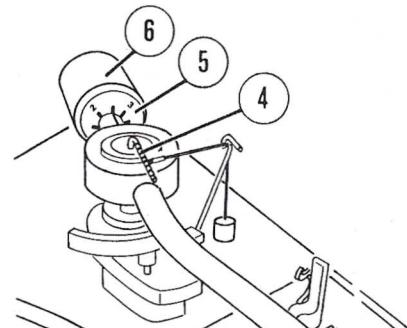

Fig.5. Justering av stifttrykk
1.5 Balansevekt (fig. 5)
1.5 Balance weight (fig. 5)
- Turn the turntable in the playing direction as the start/stop lever (13) is moved to START. The start phase will then begin and the cueing lever will lower itself.
- Hold the weight in position while just the scale ring (5) is turned until the 0 mark corresponds with the mark on the arm. Then turn the balance weight until the scale shows the prescribed stylus pressure, in this case 2.5 g. (The scale goes from 0-4 grams)
1.6 Antiskating-vekt, fig. 5
- Skalaarmen for antiskating (4) har riller, og hver rille representerer 0,5 gram.
- Legg antiskatinvektens nylontråd over bøylen (se fig.) og tre løkken inn på skalaarmen (4).
- Hev (▼), og senk (▲) pickupen med tonearmsløfteren (14).
1.6 Anti-skating weight, fig. 5
- The scale arm for anti-skating (4) has grooves and each groove represents 0.5 gram.
- Lay the anti-skating weight nylon thread over the hoop (see fig.) and thread the loop onto the scale arm (4).